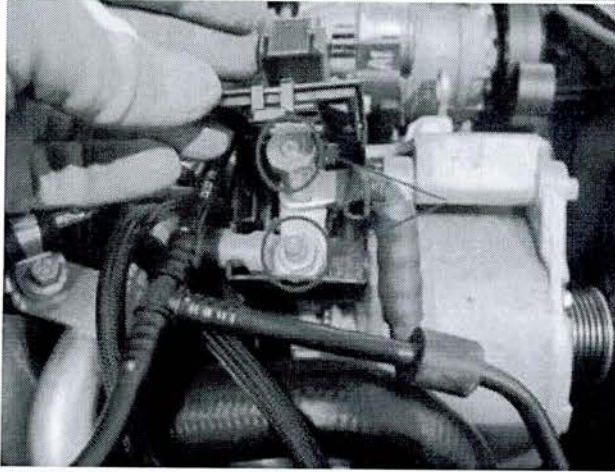

Figure 11
12. Disconnect both battery cables from the underbonnet charging post (see Figure 11)